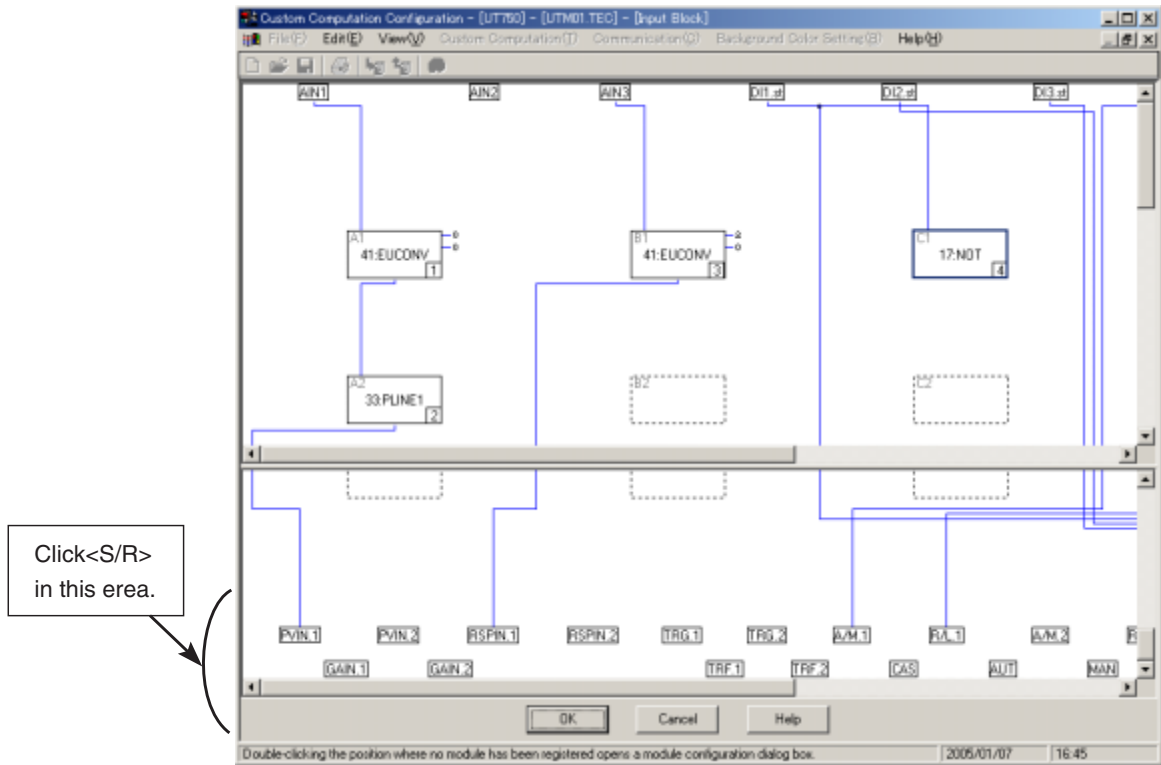

Figure 4.2.13 Output Signals Fed by the Input Block
- (1) In the [Input Block] dialog box (Figure 4.2.13), click the appropriate output signal. In this example, click [S/R].